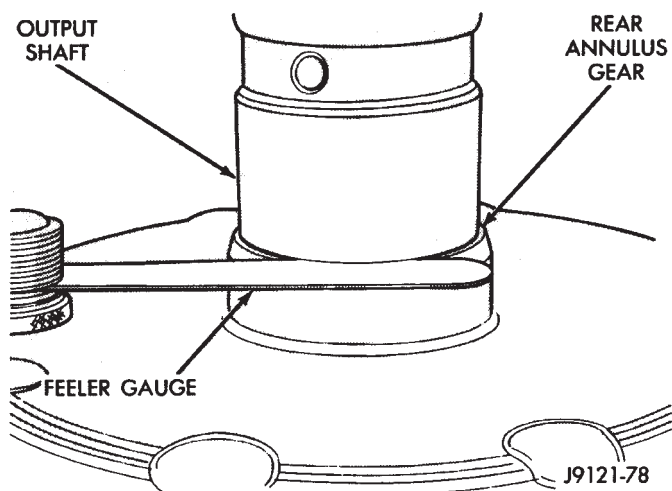

Fig. 89 Checking Planetary Geartrain End Play
(15) Turn planetary geartrain over. Position wood block under front end of output shaft and support geartrain on shaft. Be sure all geartrain parts have moved forward against planetary snap ring. This is important for accurate end play check.
(16) Check planetary geartrain end play with feeler gauge (Fig. 89). Insert gauge between rear annulus gear and shoulder on output shaft as shown. End play should be 0.15 to 1.22 mm (0.006 to 0.048 in.).
(17) If end play is incorrect, install thinner/thicker planetary snap ring as needed.